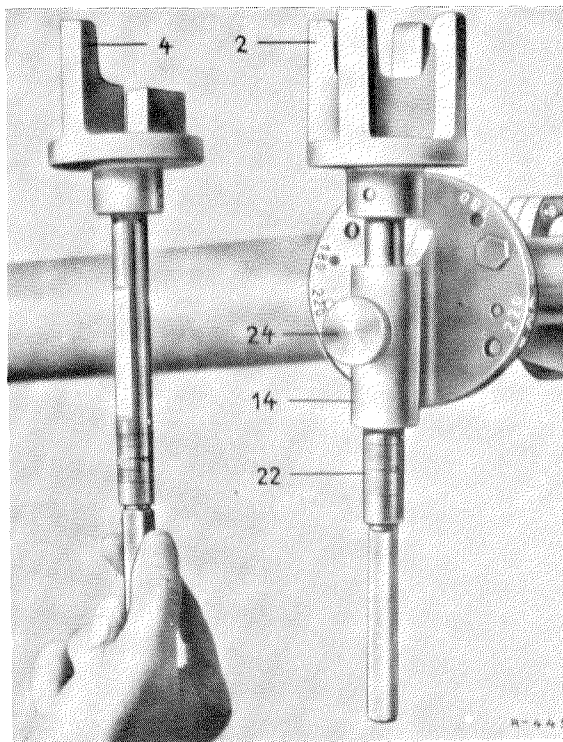

Fig. 61—1/5
Tighten the crank handles (16). Take care not to tighten the crank handle (17) too much (see Figs. 61 — 1/7 and 61 — 1/8).
4. Grip the checking devices (4) and (5) at the lower end and push them up in the holders